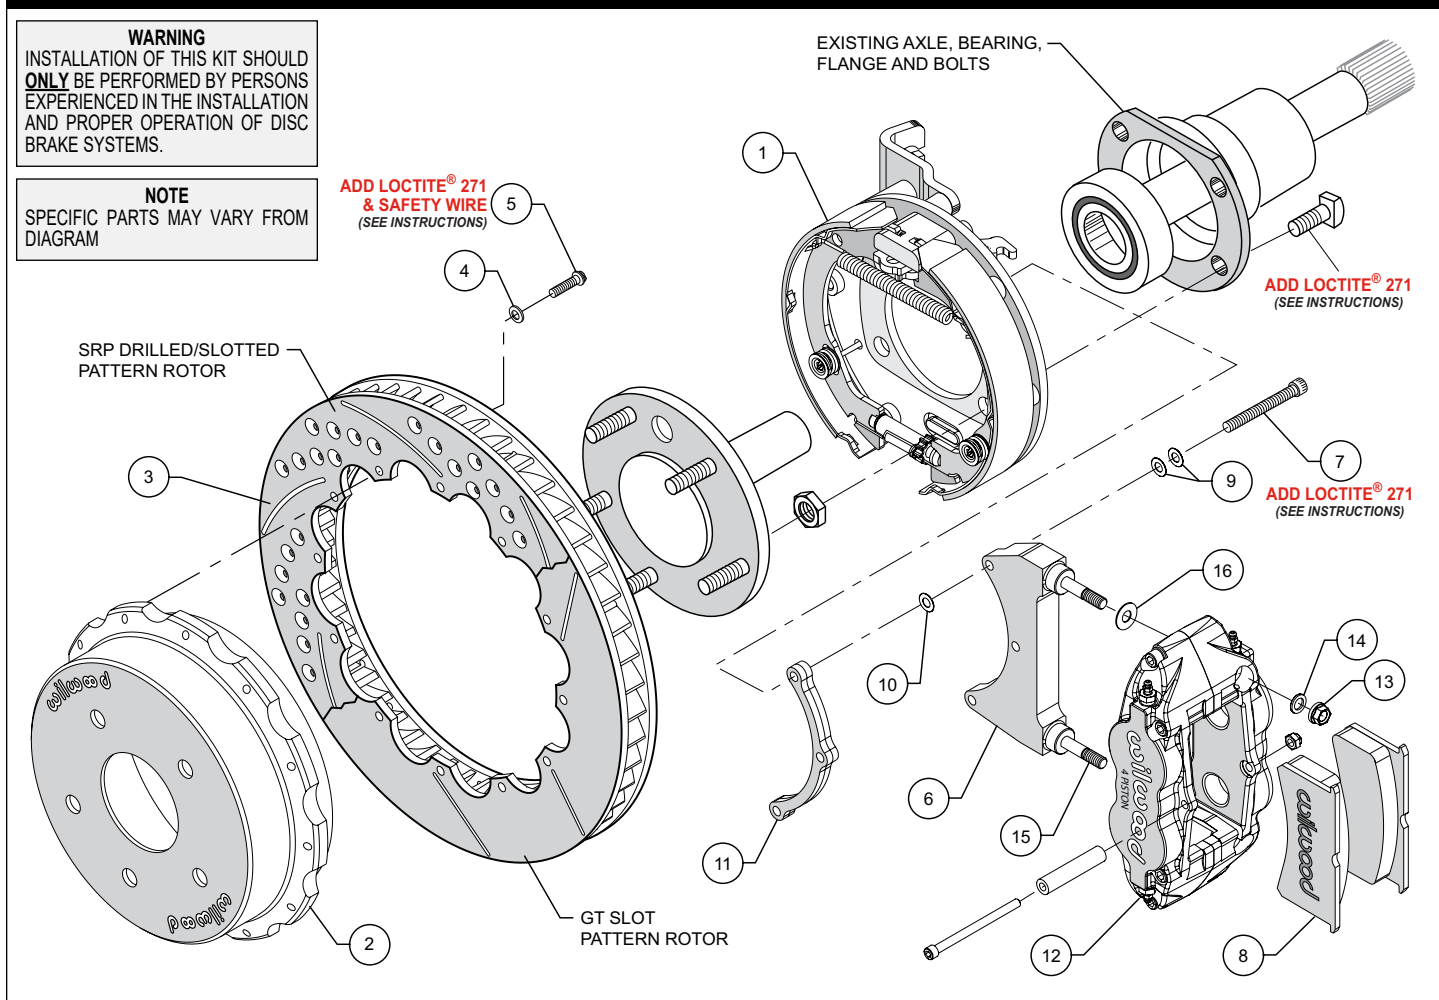
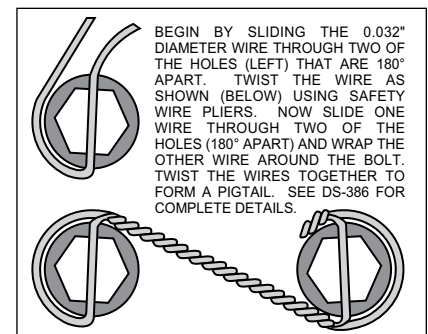

Figure 1. Typical Installation Configuration
Figure 4. Safety Wire Diagram
**NOTE:** Numbers in parenthesis refer to the parts list and Figure 1 on the preceding pages.
- Slide the bracket kit assembly (1) onto the housing flange and then insert the axle assembly through the center hole of the bracket kit assembly (1). Secure using the stock Original Equipment Manufacturer (OEM) bolts and nuts. Stock OEM hex nuts that retain the bracket kit assembly (1) should be on the wheel side of the bracket. Apply red *Loctite*® 271 to the stock OEM bolt threads and torque to OEM specifications. Make sure the bracket kit assembly (1) brake pads are FACING OUTWARD TOWARDS THE WHEEL.
- With the larger I.D. side of the rotor (3) facing away from the hat (2), bolt rotor (3) to hat (2) through the backside of the rotor using washers (4) and bolts (5). Apply red *Loctite*® 271 to the bolt threads and torque to 155 **in-lb** using a criss-cross pattern. For an added measure of security, the bolts may be safety wired using standard 0.032 inch diameter stainless steel safety wire as shown in Figure 4. Please refer to Wilwood's data sheet DS-386 (available at [www.wilwood.com/Pdf/DataSheets/ds386.pdf](http://www.wilwood.com/Pdf/DataSheets/ds386.pdf)) for complete safety wire installation instructions.
- NOTE:** Please reference the caution statement at the beginning of the assembly instructions. The caliper mounting bracket assembly (6) should be installed first with clean, dry threads on the mounting bolts (7). Install the bracket from the rear side of the bracket kit assembly (1) by sliding bolt (7) through two flat washers (9), bracket (6), shim washer (10) and finally through the spacer (11), see Figure 1. **NOTE:** End of bolt should not exceed inside face of insert. The bracket must tighten squarely against the back side of the bracket kit assembly (1). Inspect for interference from casting irregularities, machining ridges, burrs, etc. Use one thin shim (10) between the bracket (6) and spacer (11) during initial trial fitting.
- Install one washer (16) over each pre-installed stud (15) on the radial mount bracket (6). Slide the caliper (12) in place over the studs and rotor, then install the washer (14) and lock nut (13) to hold the caliper in place. Snug the lock nuts (13) and check that the rotor (3) is centered in the caliper (12). Add or subtract .015" shims (10) as necessary between the caliper mounting bracket (6) and the spacer (11) to center the caliper (12).
- Remove the caliper center bridge pad retainer bolt, nut, and tube from the caliper. Slide the brake pads (8) into place. They should install easily without interference. Check that the outside radius of the brake pad is aligned with the outside diameter radius of the rotor face. Add or subtract shims (16) between the caliper (12) and mount bracket (6) to gain the proper alignment. Reinstall the center bridge pad retainer tube, bolt, and locknut. The locknut should be snug without play in the bolt or tube. Be cautious not to over tighten.
- Adjust the parking brake shoes outward (using a drum shoe adjustment tool available at your local auto parts store) while spinning the hat (2) until a slight drag is felt against the hat/drum. Remove the lug nuts that were holding the hat/rotor in place. Install the wheel and lug nuts. Check to see that the wheel rotates freely without interference.
- Once all clearances have been checked, remove the wheel, caliper, hat/rotor from the bracket kit assembly (1). Secure the caliper mounting bracket (6) to the bracket kit assembly (1) using red *Loctite*® 271. Torque bolts (7) to 180 in-lb. Reinstall the hat/rotor assembly and again use lug nuts to hold it in place. Reinstall the caliper and torque the caliper nuts (13) to 30 ft-lb.
- NOTE:** Clevis and cable kits which attach to the parking brake assembly are not included in the Wilwood parking brake kit. Wilwood offers a generic style parking brake cable kit, P/N 330-9371 for this application which can be ordered separately from your local Wilwood dealer or by calling Wilwood customer service at (805) 388-1188.